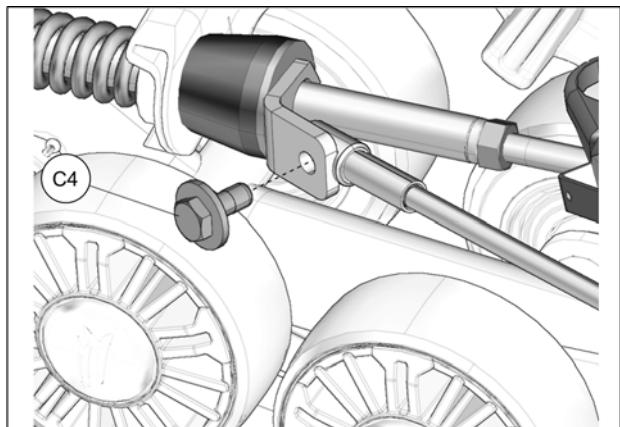

Fig. 24
15. Reverse steering wheel a little to be able to bolt support plate and cable together. Tighten provided bolt (**C4**) to 35 N·m [24 lb·ft]. See Fig. 24. Repeat steps on right side.